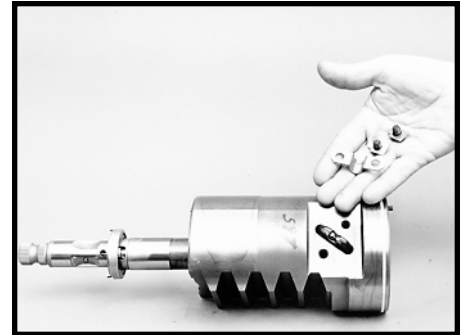

Figure 72
33. For rack pistons with the ball return guide clip (46A), bend the tangs down that are on the clip or on the two locking tabs (47A). SEE FIGURE 68. Remove the two hex head bolts (47B), lock tabs and clip. Discard lock tabs. SEE FIGURE 72. 1/2 inch hex socket required.